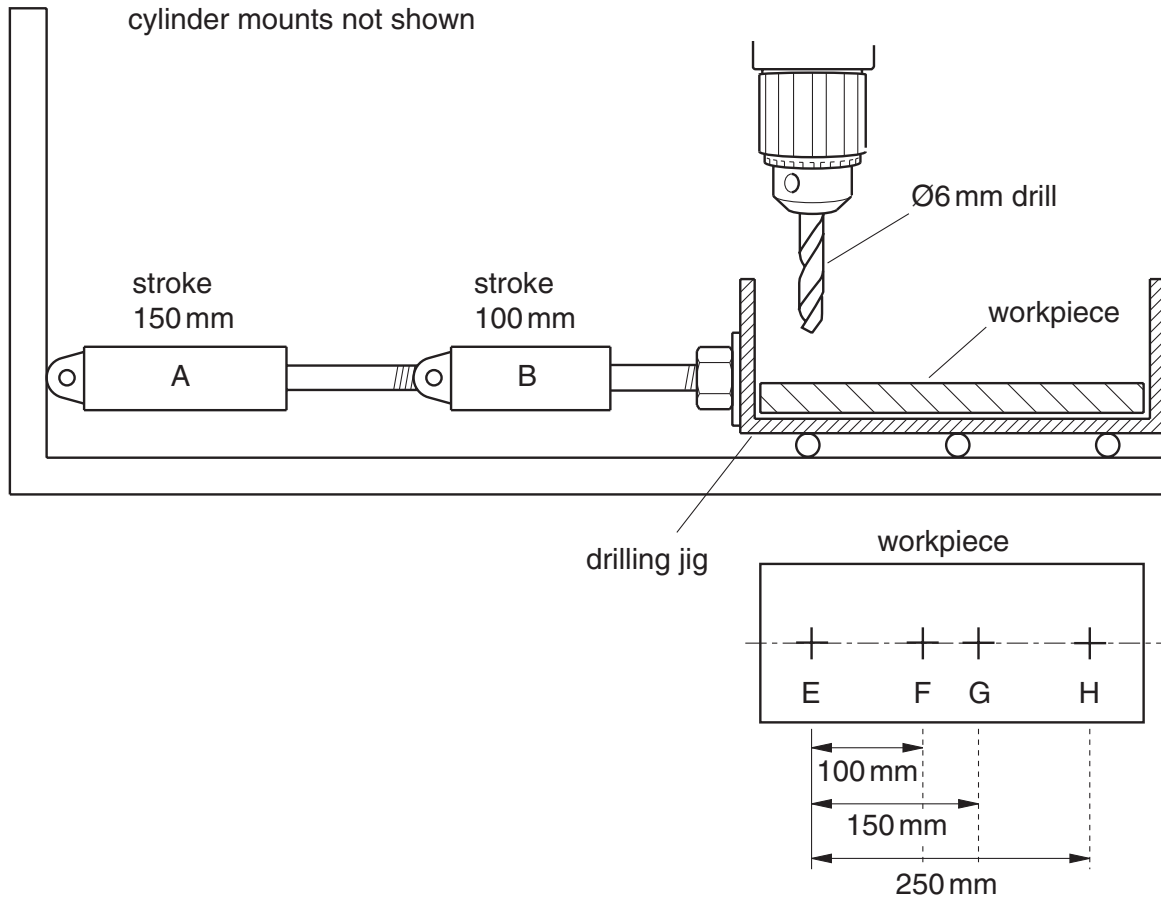

Fig. 12
- 5 Fig. 12 shows a drilling machine that has a pneumatically positioned drilling table. The drilling table can be positioned so that 4 x 6 mm holes can be drilled in a workpiece.